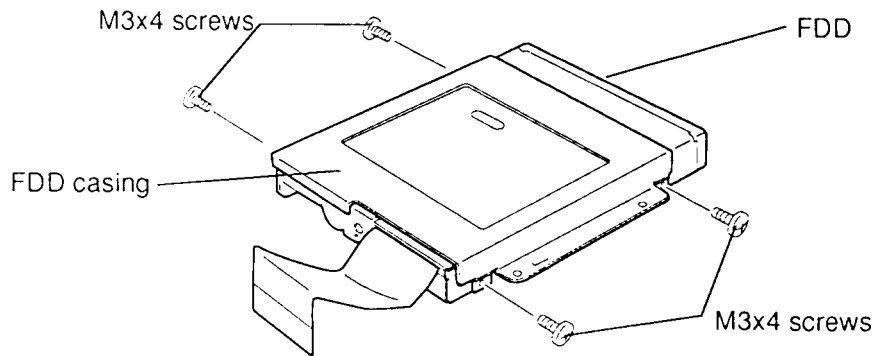

Figure 4-32 Removing the FDD from its Casing
4. To separate the **FDD** from its **casing**, remove the **four M3x4 screws** (Figure 4-32).
1. Fit the **FDD** into the **FDD casing** and secure it with **four M3x4 screws**. (Figure 4-32).